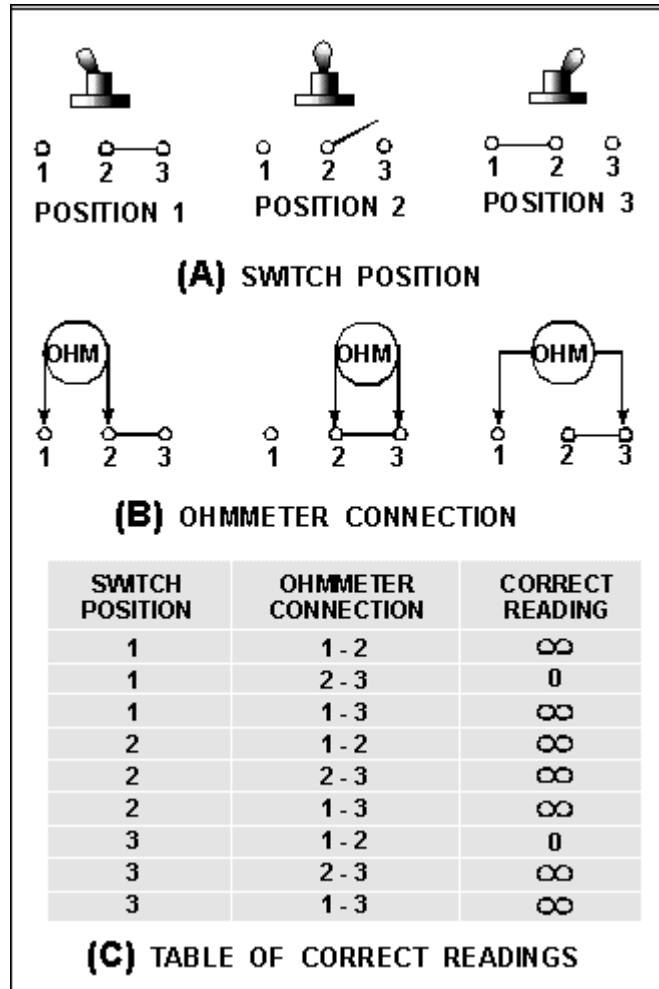

Figure 16: Checking a switch with an ohmmeter.
Switches can be checked using two basic methods. You can use an ohmmeter or a voltmeter. Figure 16 is used to explain the method of using an ohmmeter to check a switch. Figure 16(A) shows the toggle positions and schematic diagrams for the three switch positions. Figure 16(B) shows the ohmmeter connections used to check the switch while the toggle is in position 1. Figure